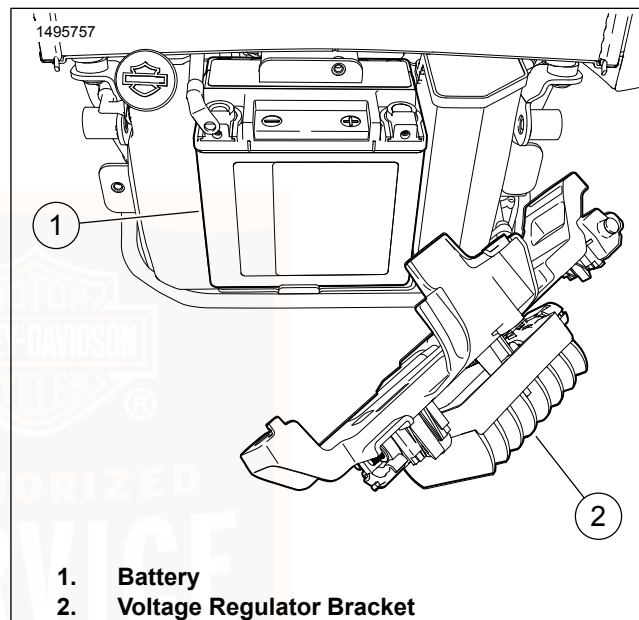

Figure 79. Voltage Regulator Bracket
6. See Figure 79. Position voltage regulator bracket (2) out of way.
7. Remove battery (1).